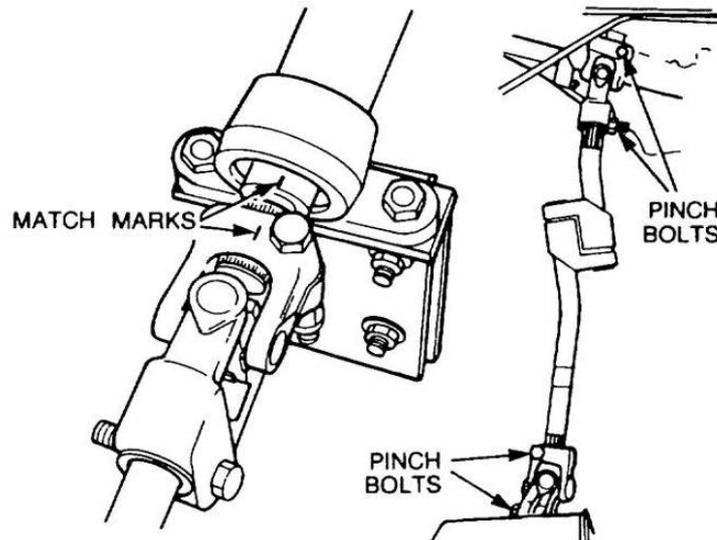

Figure 134 Alignment of the Steering Column
- b. Ensure the front wheels and steering wheel are in the straight ahead position and match mark the relationship of the steering column inner shaft to the top universal joint (Figure 134).